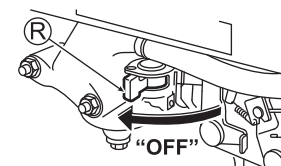

Fig. 15
3. Set the fuel cock (R) to "OFF". (See Fig. 15)